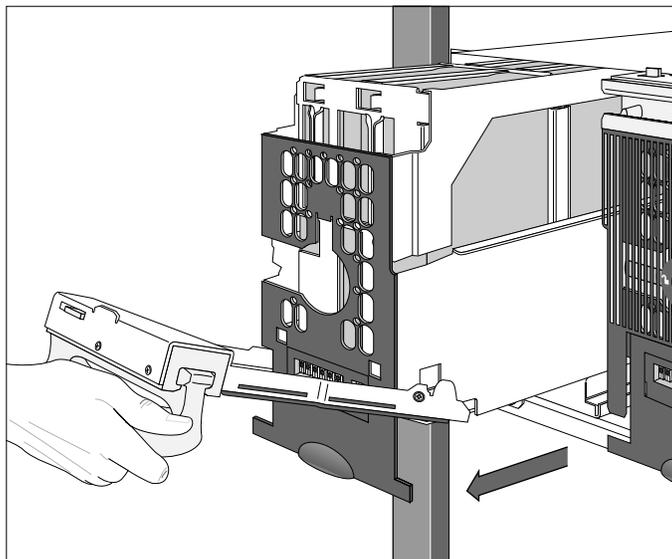

Figure 34. Opening the drive drawer
9. Pull down on the drive drawer handle and slide the drawer out of the chassis just far enough to access the Disk DCC (Figure 34).